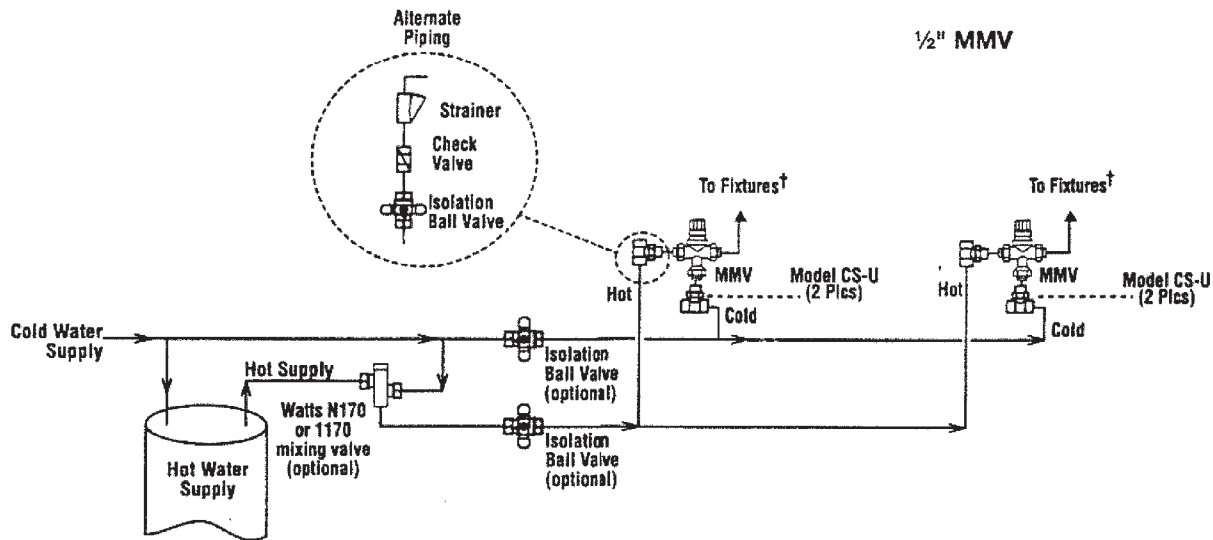

Fig. 1 Typical System Piping.
3. Connect the water supply to the MMV valve as shown in Fig. 1. Supply piping must be flushed clean before making connections to the valve.